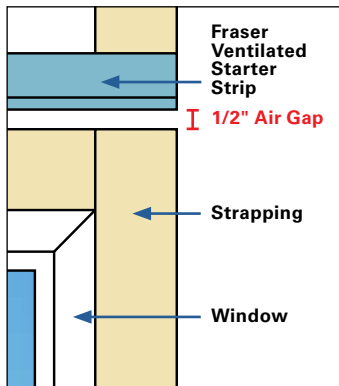

Fig. 4
- Leave a 1/2" air gap above and below all windows and doors that are greater than 4' wide. Use Fraser ventilated L-moulding (or bug screen) below windows and doors and Fraser ventilated starter strip above windows and doors to allow for ventilation and prevent insects from nesting behind the siding. *(See Figure 4)*